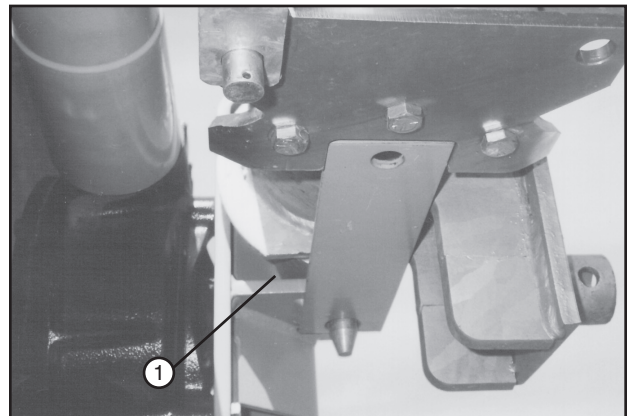

Figure 85-4 1. Swivel Mount
4. Raise the cart, then release the towable gearbox mounting brackets from the keepers. Rotate the wheel assembly approximately 60°. See figure 85-4.